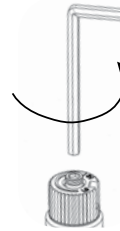

Fig. 2
9. Insert a 5/32" or 4mm Allen wrench into the hexagonal key-way of the screw (Fig. 2), rotate it counter-clockwise until it is free and extract it.